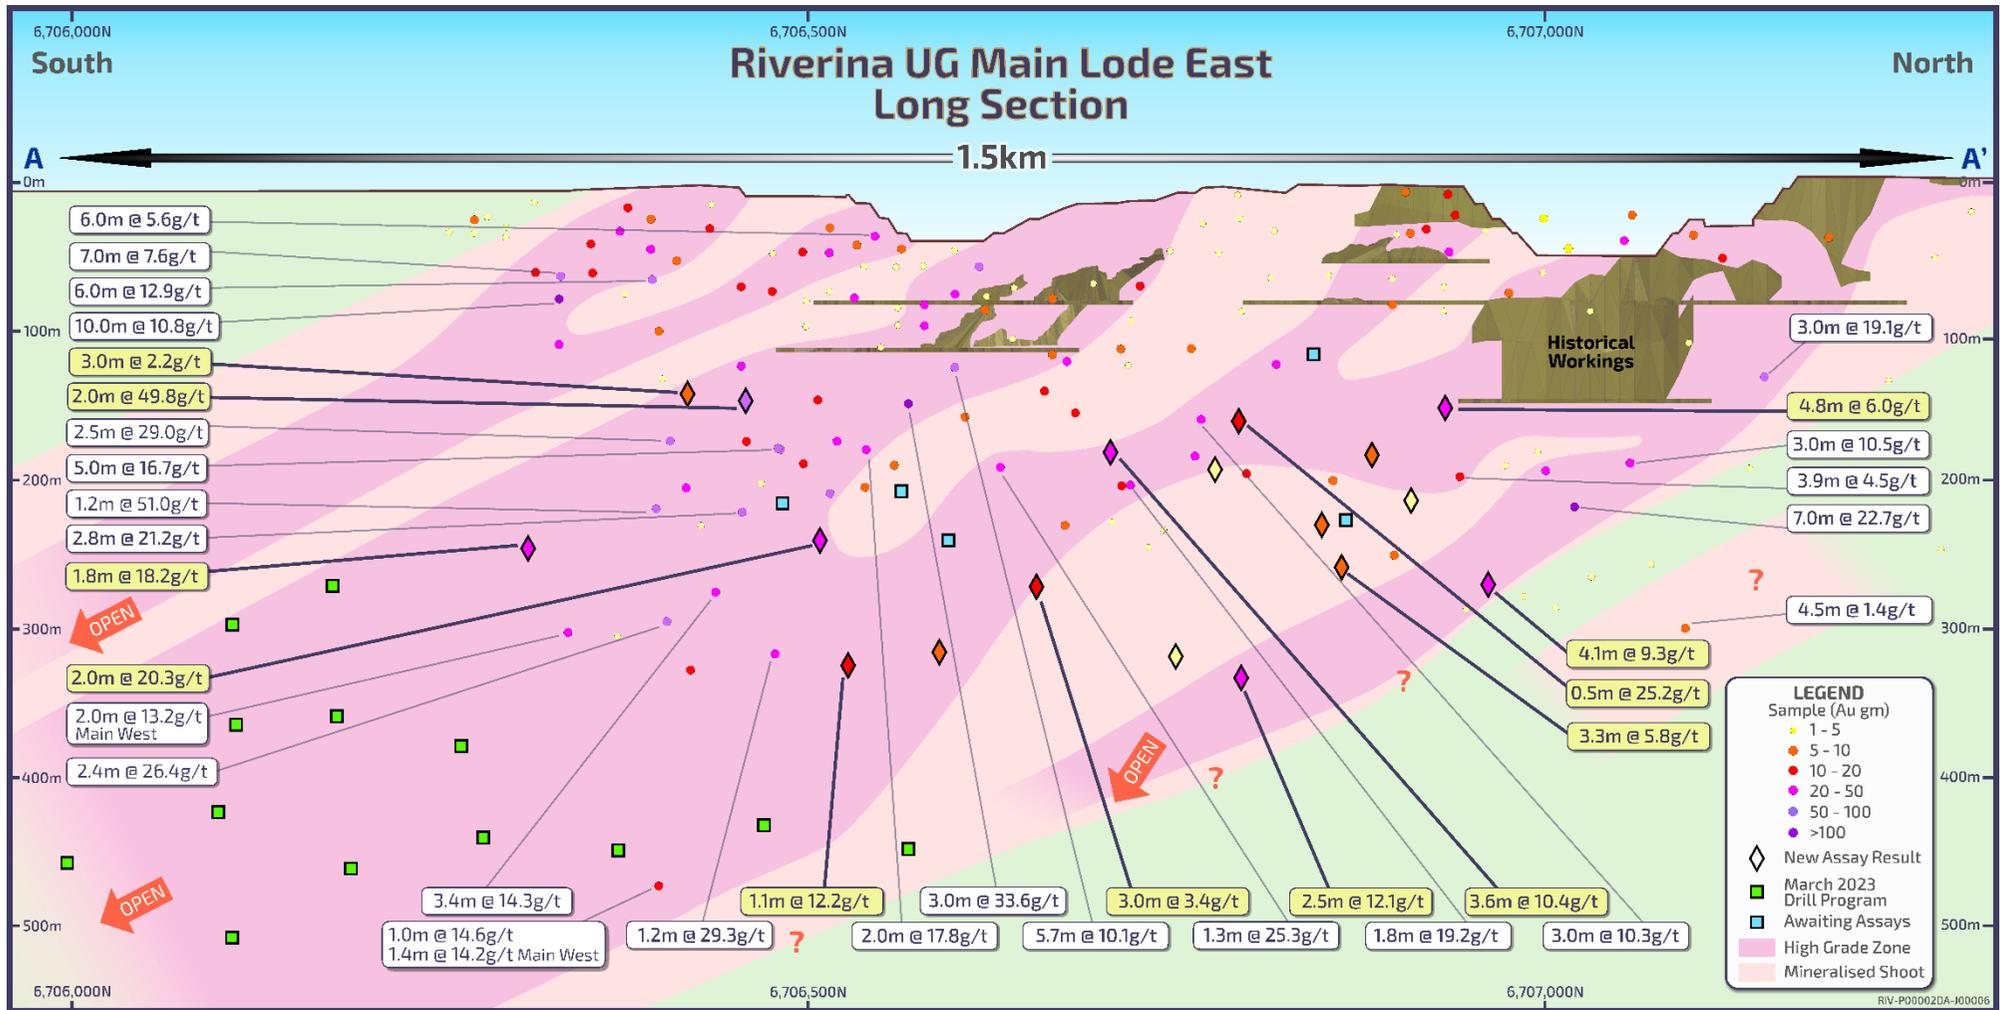

Figure 1 - Long Section of Main Lode East
- **New significant intercepts (see Figure 1) include:**